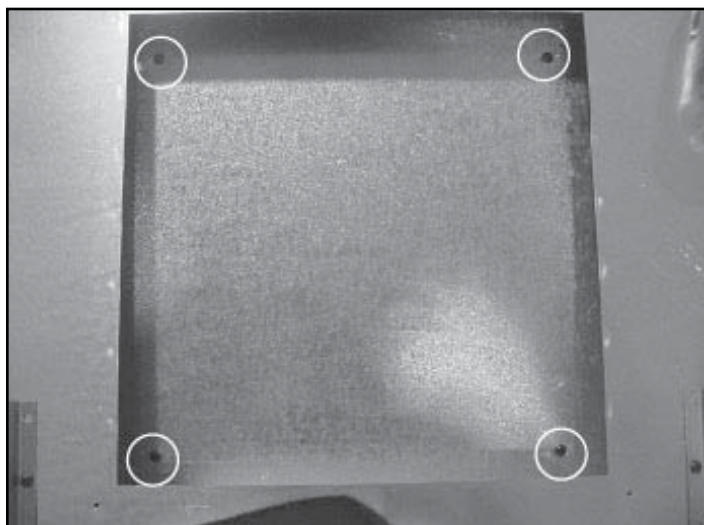

Figure 7.14 Cover Plate
- Locate the cover plate removed in the first step and place on top of top pan heat shield. Place four screws to hold this plate in place. See Figure 7.14.